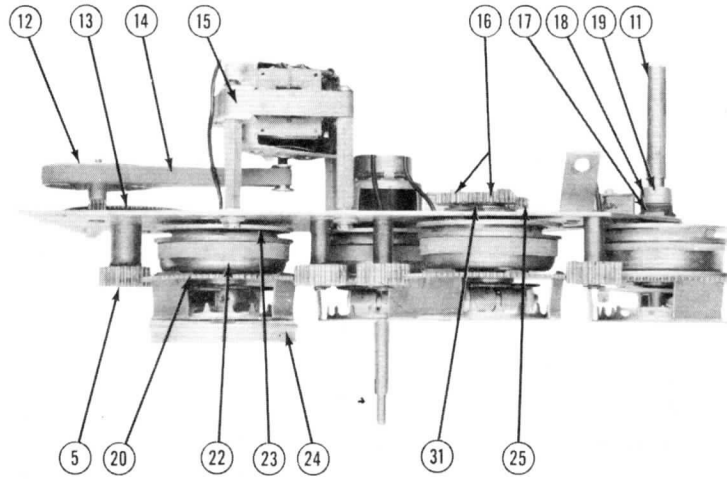

FIGURE 2.
The shaft of the 24 Volt AC motor (15) (See Fig. 2) will turn in either a clockwise or counterclockwise direction by applying 24 Volts AC to either of two fields which are electrically 90° apart. The direction in which the motor rotates is determined by moving one of the switch levers on the Control Box to either of the two off-center positions. As the motor starts, the drive belt (14) drives the intermediate pulley and gear assembly (12), which in turn starts the drive gear assembly (13) rotating. The drive gear pinion (5) turns the clutch and gear assembly (20) on the volume control shaft. Through this process the three other clutch and gear assemblies are put into a rotary motion. The clutch and gear assemblies will revolve as long as the motor shaft is turning.